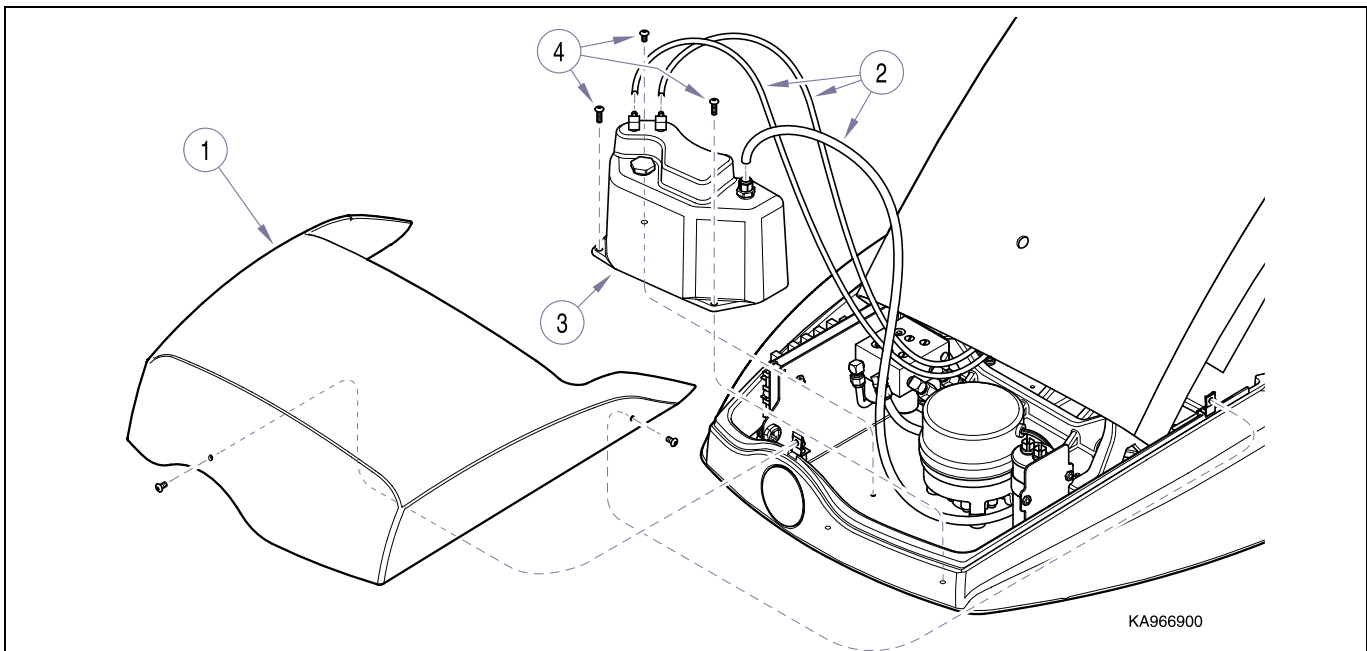

Figure 4-12. Hydraulic Reservoir
- (3) Unplug chair power cord.
- (4) Remove hydraulic cover (1, Fig. 4-12).
- (1) Place reservoir (3, Fig. 4-12) in position and secure with mounting screws (4).
- (2) Connect hydraulic lines (2).
- (3) Add hydraulic fluid to reservoir until at correct level (refer to para 4.12).